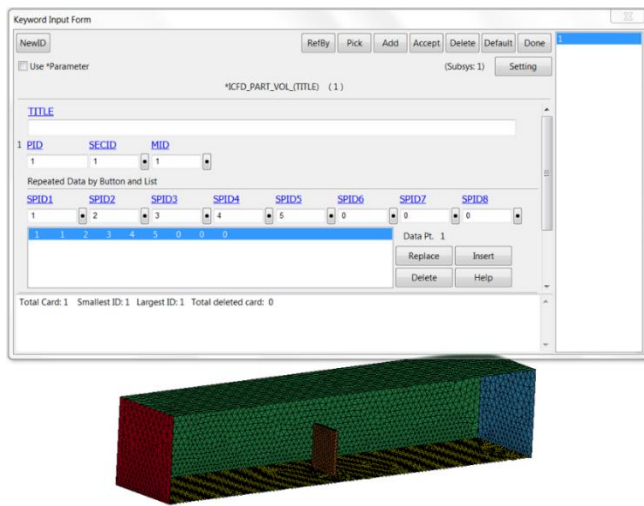

Figure 7 \*ICFD\_PART\_VOL keyword.
6. To associate the fluid properties with the fluid volume, double click on \*ICFD\_PART\_VOL, see Figure 7. Here select the section id and material that you created in the previous step. The PID is the part id of the volume. The SPID parameters should include all surface parts that enclose the volume. In this case all the parts, input all parts and then press Insert. If more than eight parts is used insert another row.